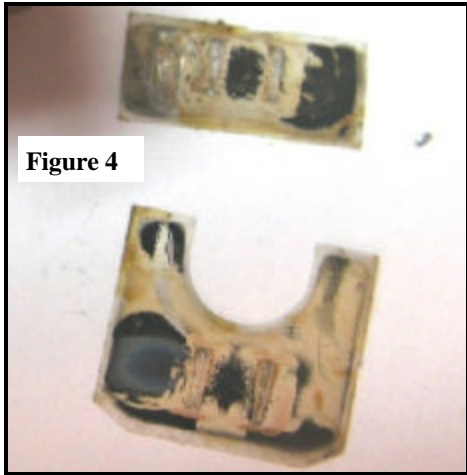

Figure 4
4. Remove the original capacitors. Inspection should show tarnish or deposits that short across the upper and lower plates. Sometimes, you may see traces from the primary to the secondary sides of the IF transformer (typical of a single wafer of mica with multiple capacitors). To make room to access the capacitors, you may have to: a) move the lower transformer slug up, and b) remove the transformer coil wires and separate the coil section from the base. (Figures 4 and 5)